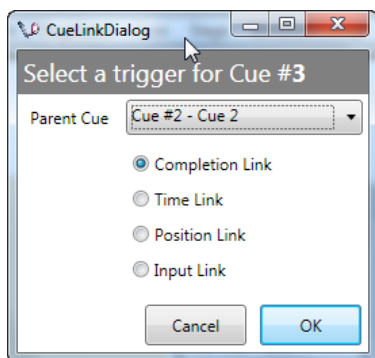

Figure 238
2. Select the **Parent Cue** from the drop down list and select **Completion Link**, then press **OK** (Figure 238).